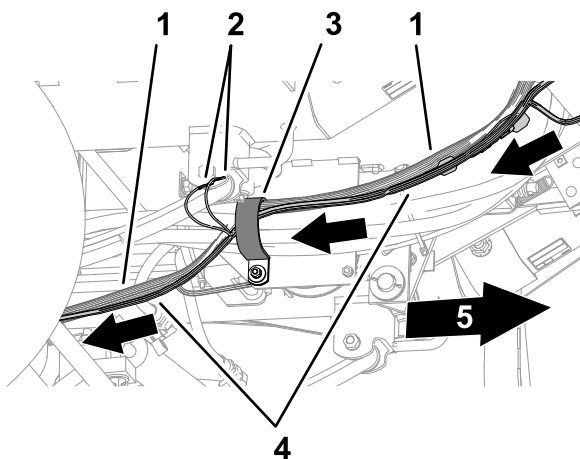

Figure 38
1. Route the 71 cm (28 inches) wire harness branch, 89 cm (35 inches) wire harness branch, and 452 cm (178 inches) wire harness trunk through the R-clamp that secures the steering hoses, located below the floor plate and forward of the front axle (Figure 38).